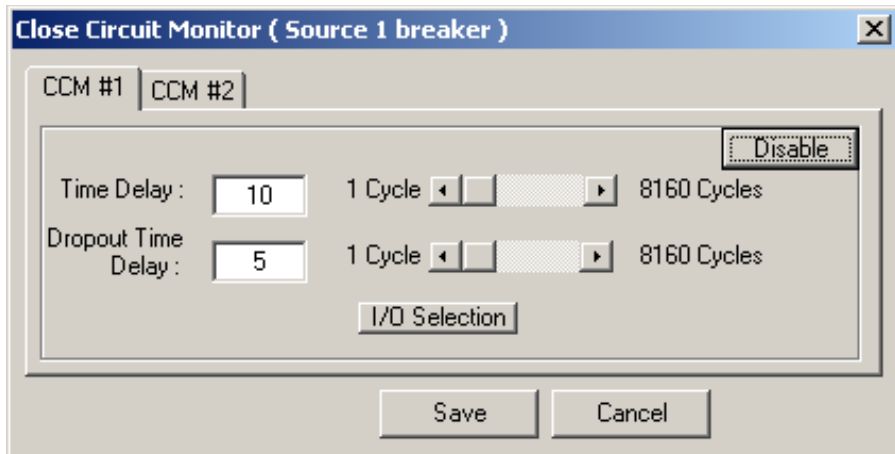

Figure 4-88 CCM (Close Circuit Monitor) Function Dialog Screen
**I/O Selection** — The I/O Selection button opens the CCM (Close Circuit Monitor) I/O Selection Dialog Screen (Figure 4-88) that allows any input or the Fuse Loss (FL) function to be selected to block the CCM (Close Circuit Monitor). The CCM #1(2) Function can also be used to activate a selected output when it times out.